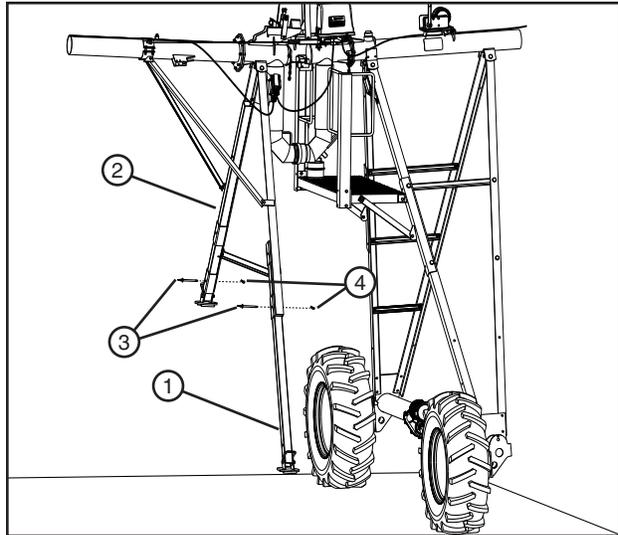

Figure 26-1 1. Front Support Leg 2. Rear Support Leg 3. 3/4 in Torque Pin 4. 3/4 in Lynch Pin
3. Remove 3/4 in pins and lower the forward and rear support legs. Lock each leg in lowered position with a 3/4 in pin in place with a lynch pin. See Figure 26-1.